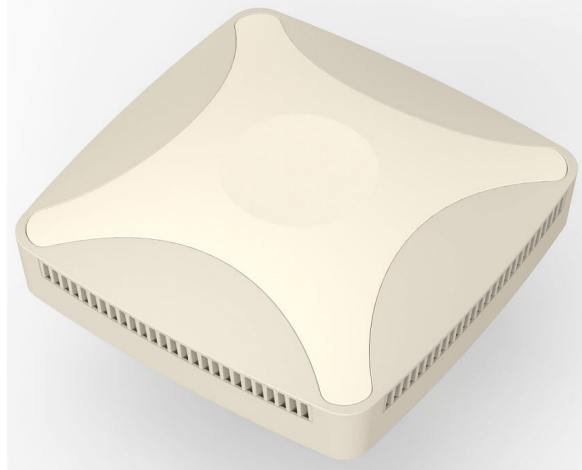
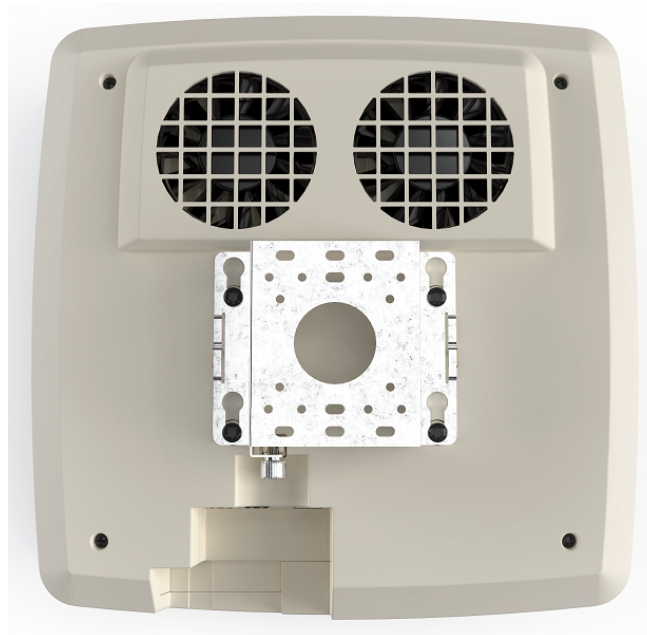
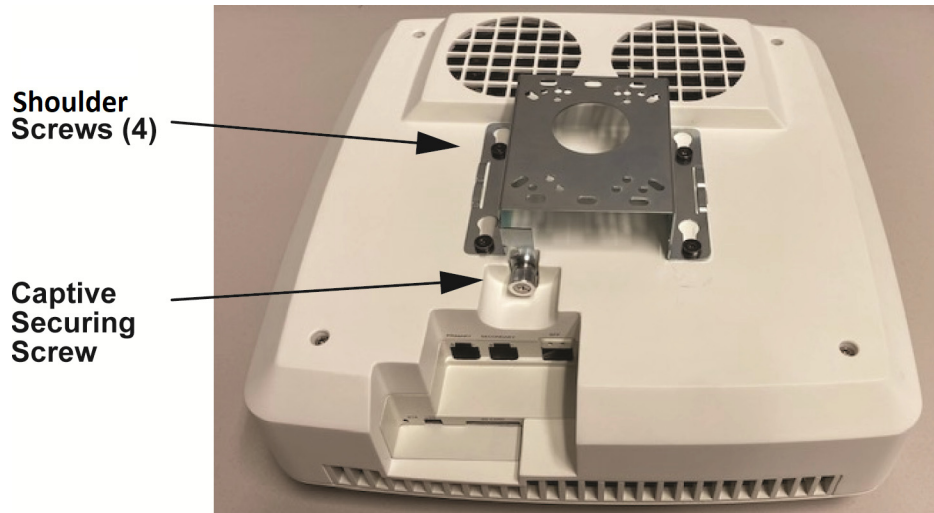

Figure 2 Radio Node Cover-Side View
Figure 3 Radio Node Mounting-Side View With Ceiling-Mount Bracket
Figure 6 Ceiling-Mount Bracket Screw Locations
Figure 2 and Figure 3 display cover and mounting-side views of the radio node.
As shown in Figure 3, the SCRN-510 comes with the ceiling-mount bracket attached. This bracket is held to the radio node mounting side with four shoulder screws and a captive securing screw, and is non-tilting. The shoulder screws should not need to be adjusted but if they do, loosen them slightly to be able to slide the ceiling-mount bracket on and off of the radio node when the captive securing screw has been loosened. Figure 6 shows the captive securing screw and four security screw locations.
- When mounting the radio node vertically, orient the bracket so that the bracket keyholes have the wide side up as shown in Figure 3.